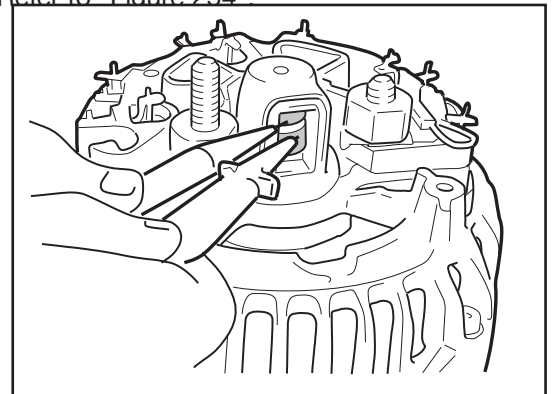

Figure 254
2. Measure the rotor resistance, see measurement specification. Refer to "Figure 254".